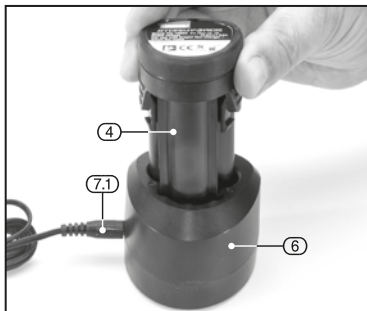

FIG.2
- Insert the jack plug (7.1) of the charger adaptor (7) into the battery charger dock (8). (Fig.2)
- Insert the battery pack (4) into the battery charger dock (8).